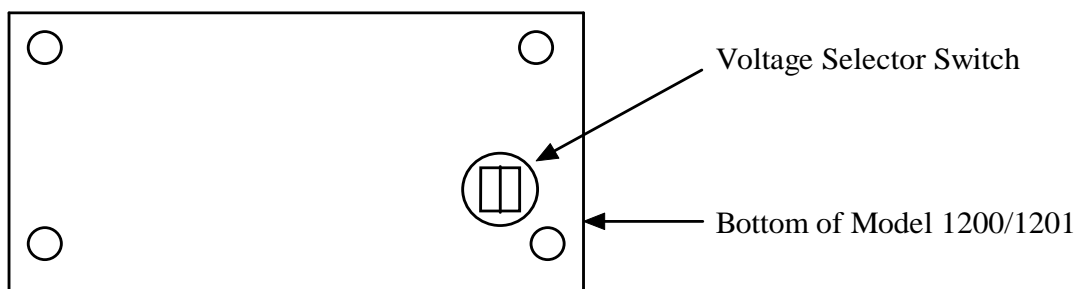

Figure-2 Bottom of **UNICO® 1200/1201**
3. Select either **230V** or **125V** on the Voltage Selector Switch on the bottom of the **1200/1201** shown in Figure-2, to match your local main voltage supply.